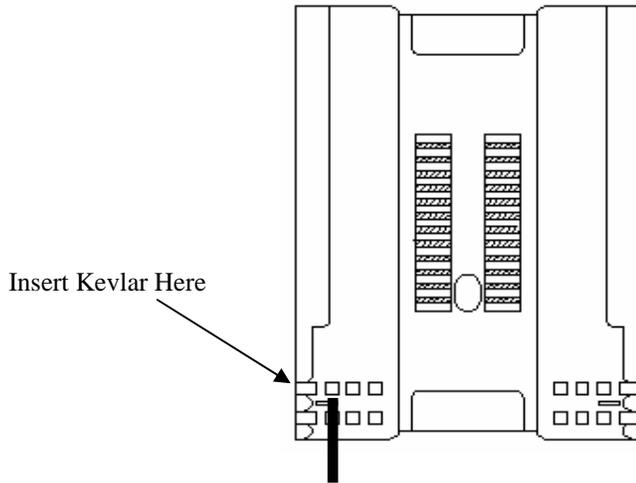

Figure 7 – Inserting Kevlar
Step 6 – Separate the Kevlar from the buffered fiber ensuring it does not cross another fiber strand. Gather the Kevlar of the first OFCC group for set “A” and wrap the bundled Kevlar around the outer most retention slot (See Figure 7 below).